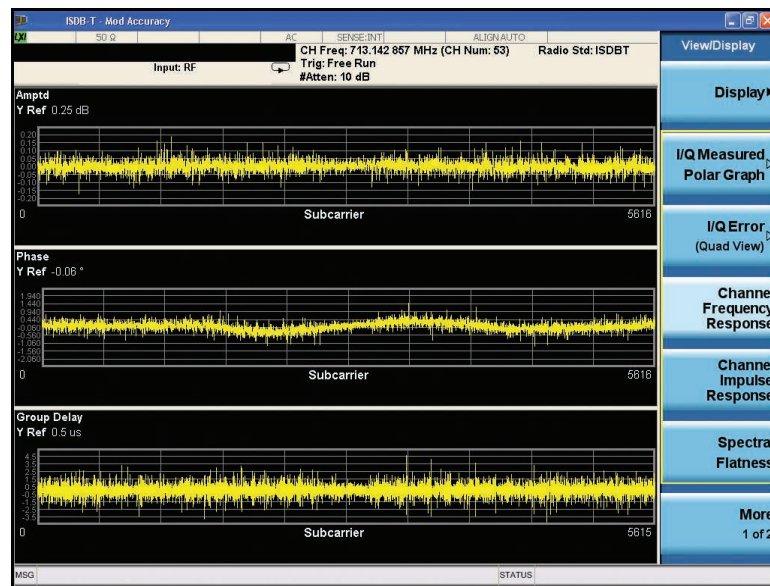

Figure 13. Modulation accuracy measurement with channel frequency response view
View the channel frequency response (Figure 13)	[View/Display] {Channel Frequency Response}
- **Channel frequency response view** (Figure 13): This is a three-window view which includes: